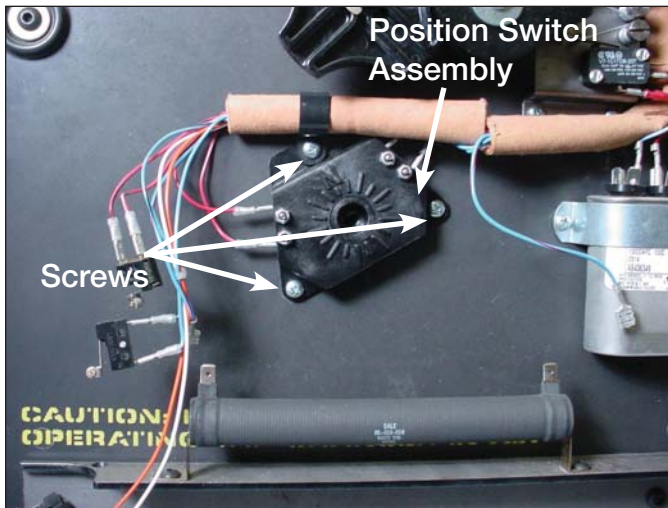

Figure 40.
- Fasten the tap position switch assembly to the front of the drive panel assembly with three pan head Phillip screws. See Figure 40.